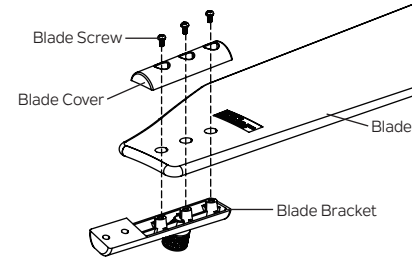

Fig. 18
Step 1. Position the blades over the blade brackets with the threaded posts showing. Make sure the bottom edge of the blades are fully seated against the blade brackets. Place the blade covers on the top of the blades, positioning the holes over the threaded posts. Tighten blade screws to secure the blades to the blade brackets. (Fig.18)